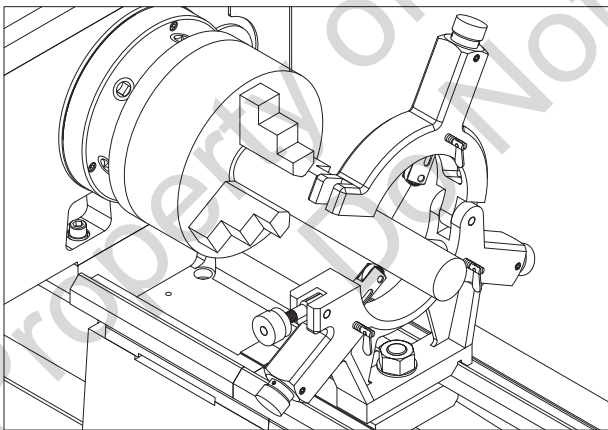

Figure 39. Workpiece mounted in the steady rest.
4. Loosen the lock knob and open the steady rest so the workpiece can rest on the bottom two finger rollers, as shown in Figure 39.